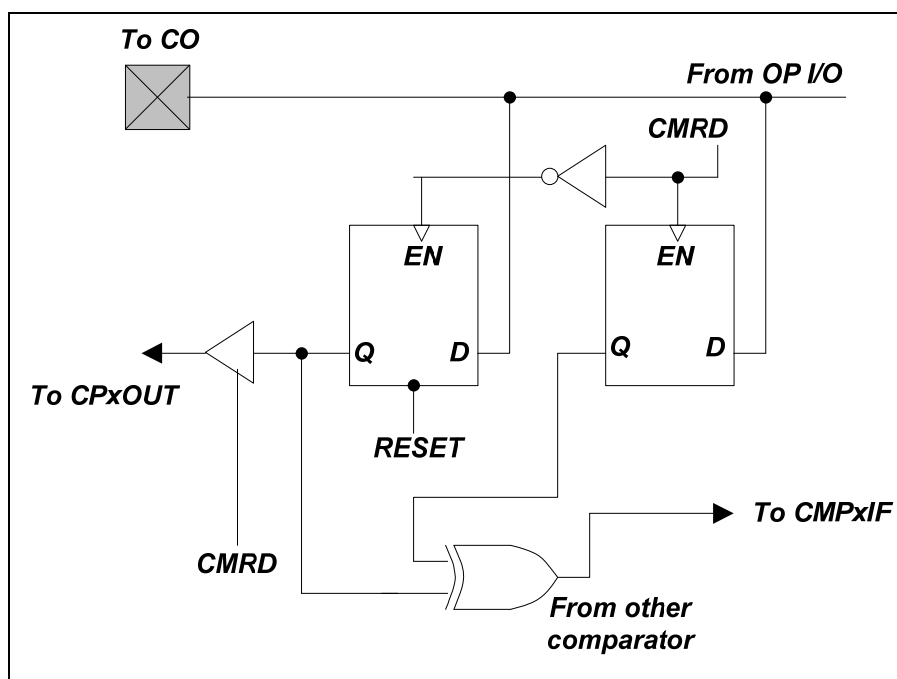

Figure 6-37 Comparator Output Block Diagram
- Figure 6-37 shows the Comparator Output Block Diagram.